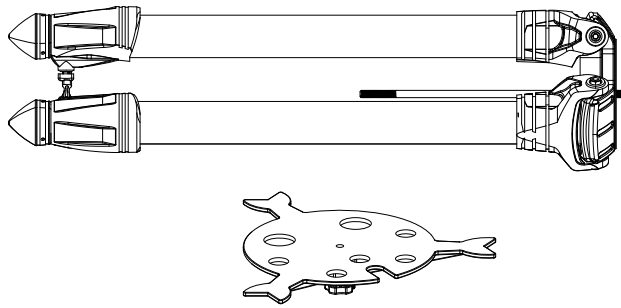
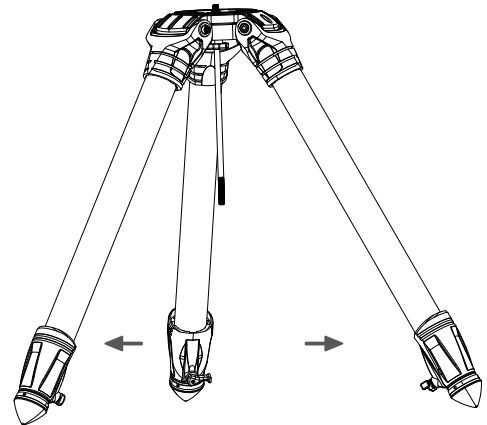

Fig. 1.1a
Fig. 1.1b
1. Spread the three legs of the tripod(Fig 1.1a)(Fig 1.1b).